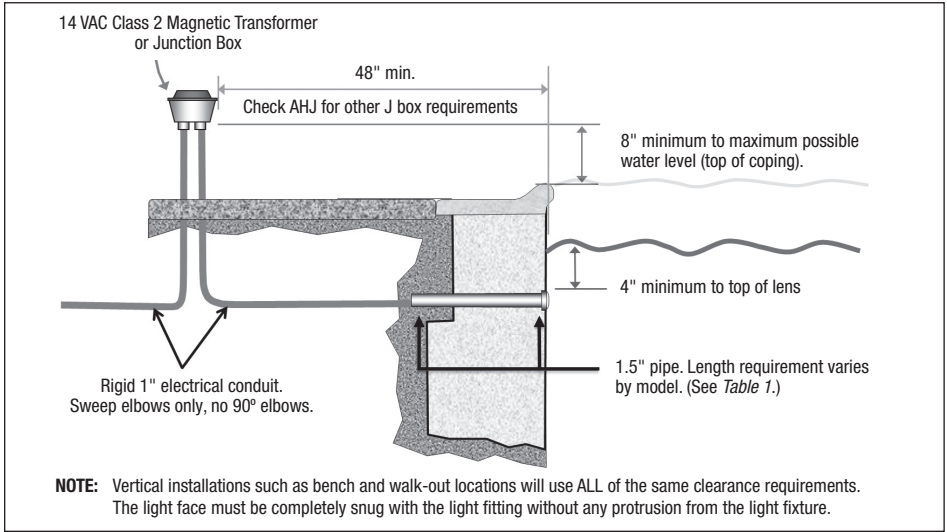

Figure 1. Jandy LED Light Installation with Standard 1.5" Plastic Fitting
**NOTE:** The electrician must complete preparatory steps before light fixture is installed. See *Figure 1*.
1. The junction box or Infinite WaterColors LED Light Controller is suitable for direct conduit connection to lights and must be located at least (8) inches above water level, at least four (4) inches above ground level, and at least 48 inches (4 feet) from the edge of the pool, or as required by local code. See *Figure 1*.
3. A standard 1.5" plastic wall / return fitting (not included) must be installed so that the top edge of the underwater light's lens is at least 4 inches (10.2 cm) below the surface of the water in the pool. See *Figure 1*.